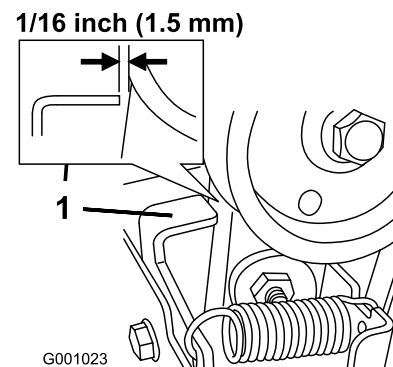

Figure 47
3. With the auger/impeller lever disengaged, ensure that the gap between the auger clutch assembly and the tab is 1/16 inch (1.5 mm) (Figure 47).